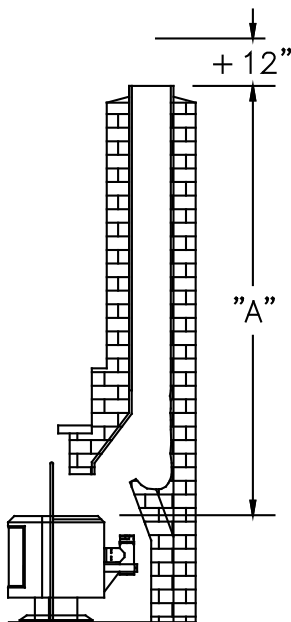

Figure 18
3. Measure and record the dimensions as shown in **(Figure 18)**.